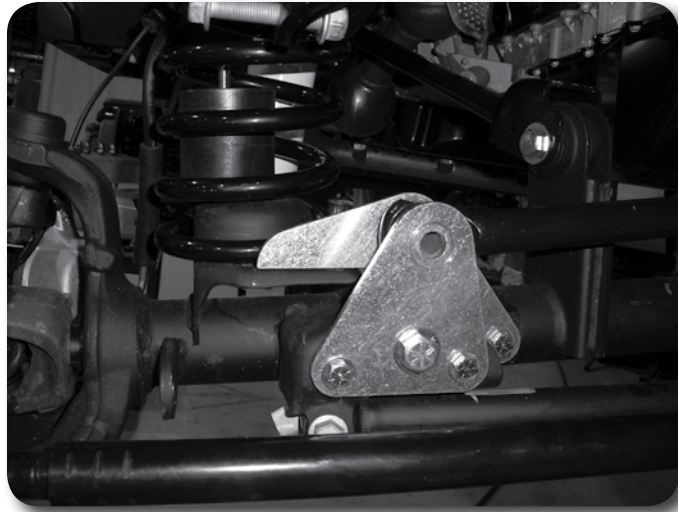

Figure 11
28. Adjust the inside bracket as necessary to make sure the wing is relatively flush and square to the coil mount edge. Weld the inside bracket to the coil mount along the bottom edge of the wing. Allow the weld to cool and paint any exposed metal to prevent corrosion. **Figure 11**